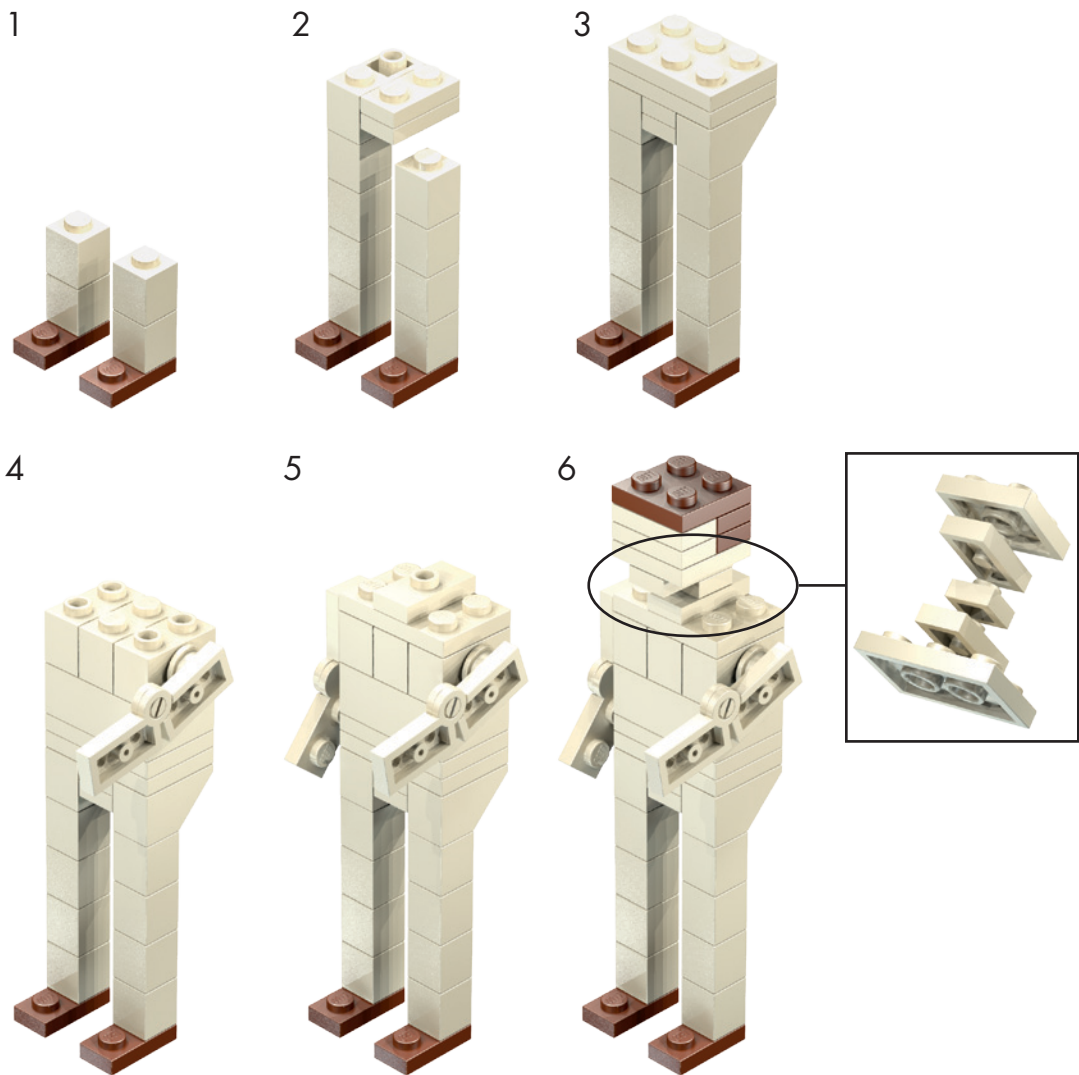

Figure 4-7: Creating a basic miniland character
Now it's time to start building your own characters. In Figure 4-7, I show you six easy steps you can use to make a basic figure, and then we'll explore variations on hair, outfits, and poses.
*In Figure 4-7 I'm adding more than one layer of parts per step. Because this is such a small model, it should be easy to understand these condensed instructions.*
One cool aspect of the basic miniland figure is that you can pose the arms. The hinge elements shown in Figure 4-7 stick into a 1×1 cylinder plate that’s inserted into a 1×2 Technic brick. There is just enough friction between the stud (on the hinge element) and the cylinder plate to hold the arm in position—even straight up in the air!